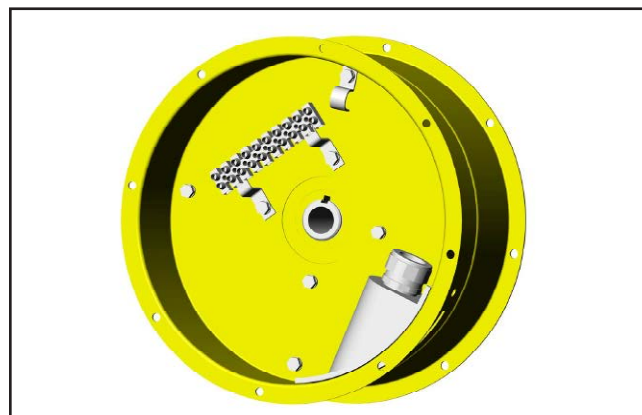

Figure 12-4
1. Wind the cable onto the spool by rotating the spool counterclockwise, as viewed from the spool side (for standard rotation reels). See **Figure 12-4**.